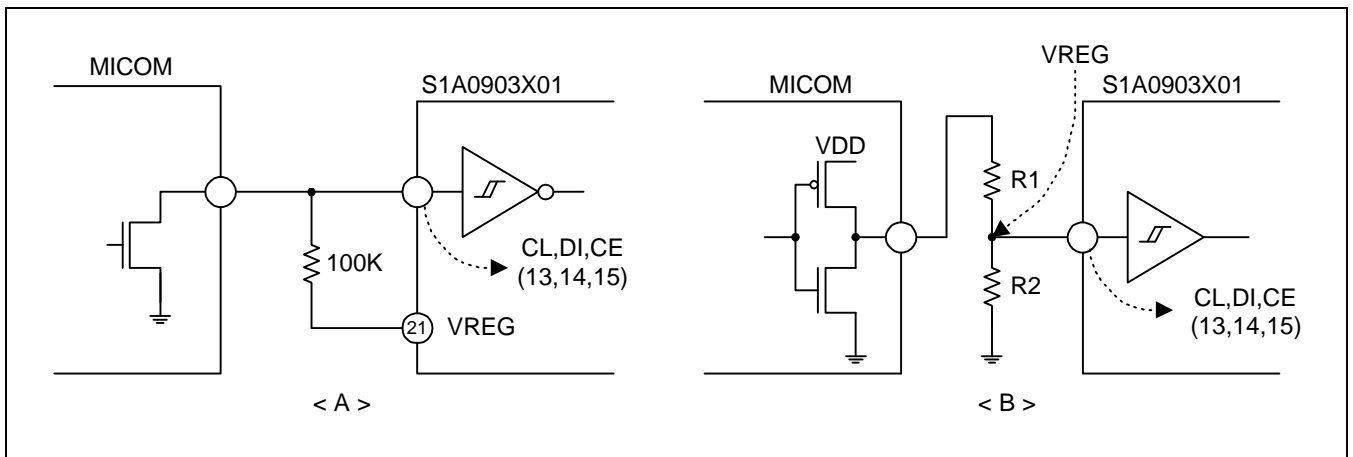

Figure 19. Connection between SIO and Microprocessor
3. Application of a input pin CE, DI, CL depends on the output of Micro-processor(Figure. 19). Input pin of CE, CL, DI must be set to be VDD using R1 and R2 In the case of Figure.19 .